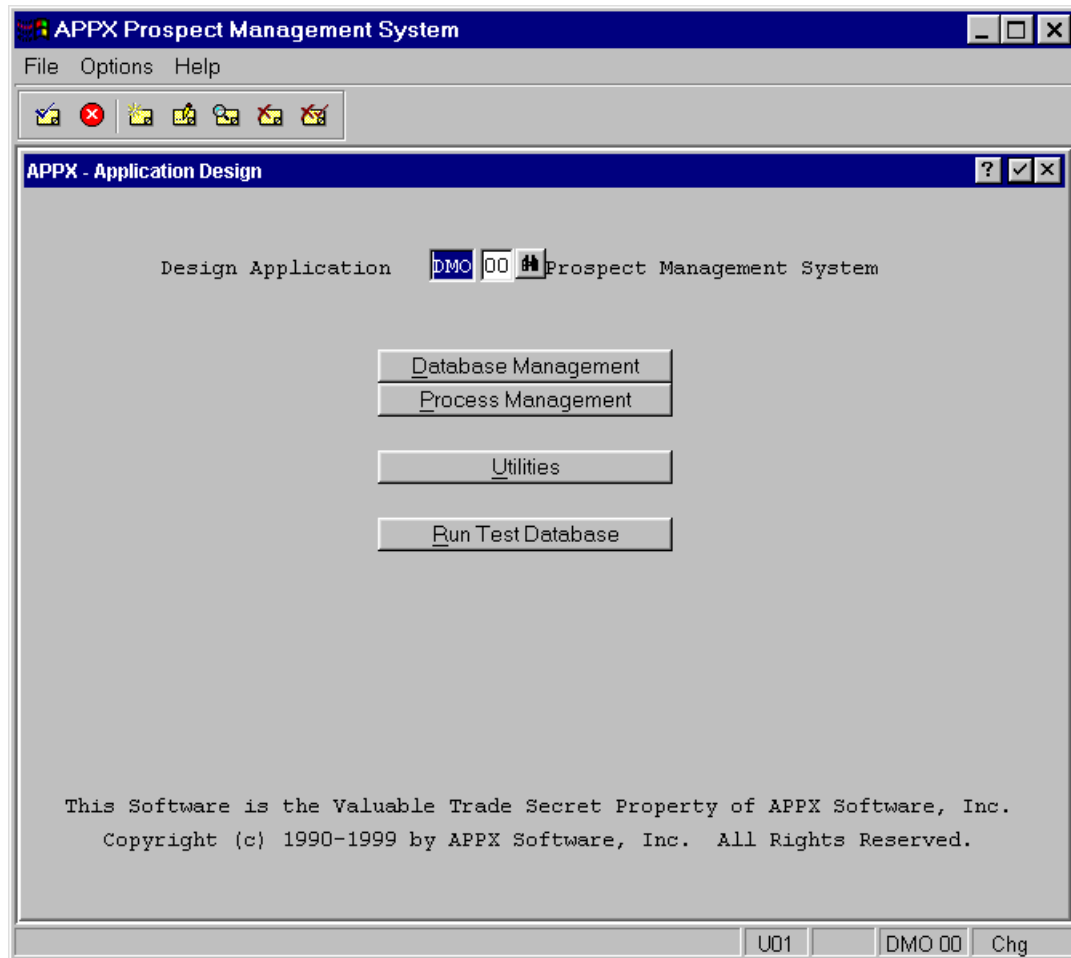

Figure 8 – APPX Application Design screen.
- You are presented with the main APPX Application Design screen (*Figure 8*). Notice that application **DMO**, version **00** (zero zero) has already been conveniently selected for you. Normally you would specify which application and version you want to design.